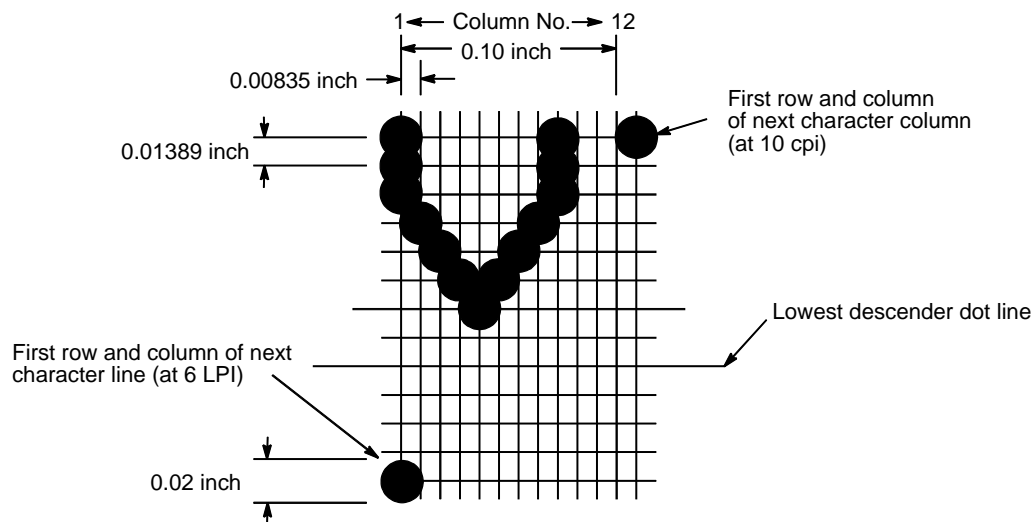

Figure 8. A Dot Matrix
Every text character is stored in printer memory as a pattern of dots on a logical grid called the dot matrix. (See Figure 8.) The ink dots are made by a row of small hammers mounted on a shuttle that sweeps rapidly back and forth. Printer logic circuits divide every line of incoming data into horizontal dot rows. The hammers put dots at the required positions for the entire line by striking an inked ribbon and the paper.
The dot matrix patterns of text characters vary according to the font the user selects. For example, in the data processing (DP) font at a line spacing of six lines per inch (lpi), a dot matrix contains 12 dot rows from the top of one character line to the top of the next. (See Figure 8 and Figure 9.) At eight lpi there are nine dot rows per character line, at nine lpi eight dot rows per character line, and so on.